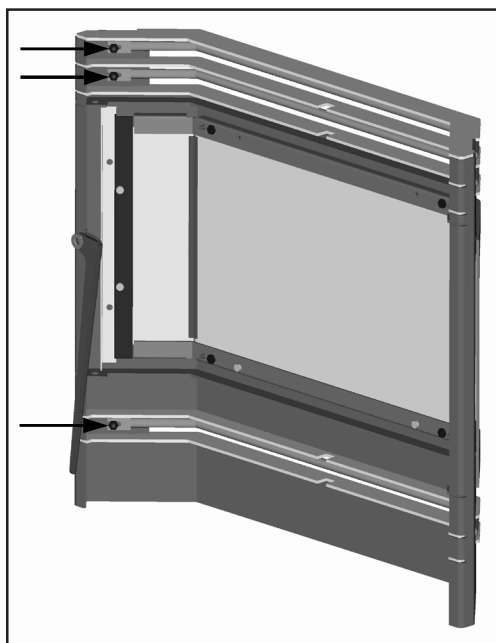

Figure 36: Door with louvers.
Door must be open. The three (3) arrows in Figure 36 point to three (3) of the nuts that hold the louvers on. There are three nuts on each end. Remove the six nuts by hand; if the nuts are tight, a  $1\frac{1}{32}$ " socket can be used. When removing the louvers, pull one end of the louver up over the stud. If it is difficult to remove the louver, push on one side from the front, then pull the other end off the second stud.